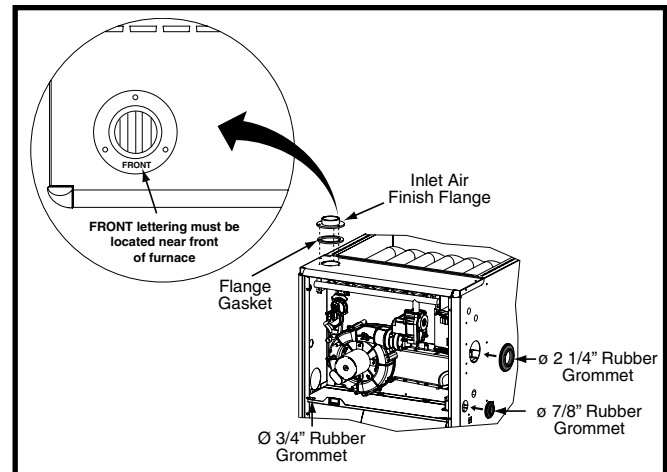
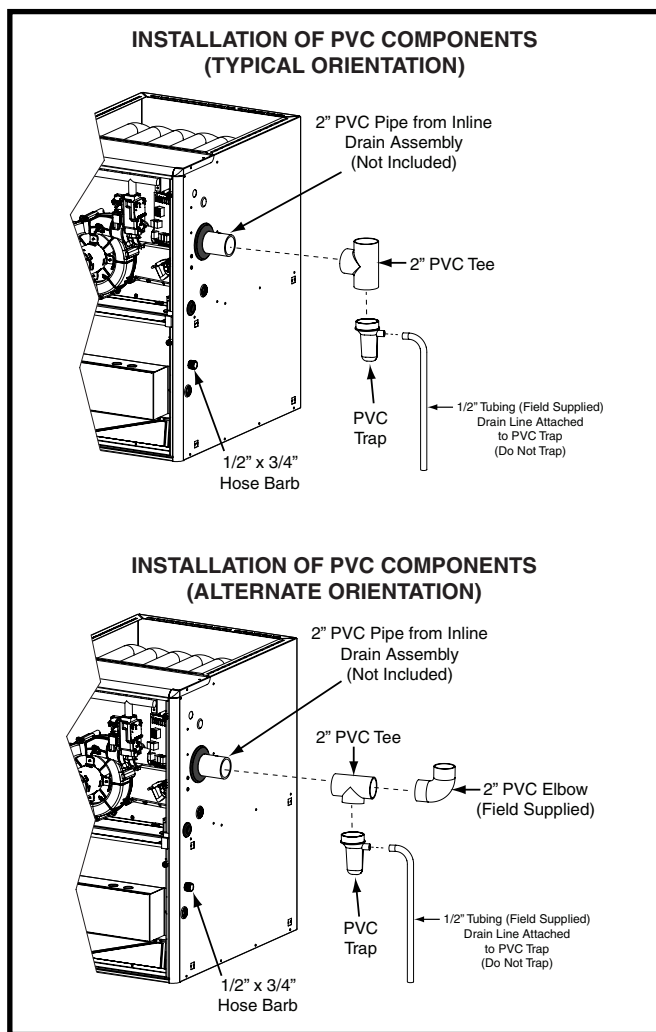

Figure 16. Finish Flange & Rubber Grommets
Figure 17. PVC Components
The components in Figure 16 (page 18) & Figure 17 (page 19) are included in the extra parts bag supplied with the purchase of *TC / *TL furnaces. Depending on your particular installation, some of these components are optional and may not be used. Please refer to the descriptions and accompanying figures when installing these items.
NOTE: Make sure the flange is properly oriented so that the FRONT lettering is located near the front of the furnace as shown in Figure 16.
The 2 1/4" rubber grommet is used to seal the opening between the furnace cabinet and the 2" PVC vent pipe. The rubber grommet should be installed in the 3" hole prior to running the vent pipe out of cabinet. No sealants are required. See Figure 16.
- The 2" PVC pipe shown in Figure 17 is not provided in the extra parts bag.
The 2" PVC Tee and Trap are used when the inducer is rotated to vent out thru the left or right side of the furnace cabinet. See Figure 17.
1. Install the PVC Tee vertically on the 2" vent pipe that is extending out the side of the cabinet. Permanently bond them together using appropriate primer and cement. Refer to the typical orientation shown in Figure 17.
1. Install the 2" PVC Tee horizontally on the 2" vent pipe that is extending out the side of the cabinet. Permanently bond them together using appropriate primer and cement. Refer to the alternate orientation shown in Figure 17.